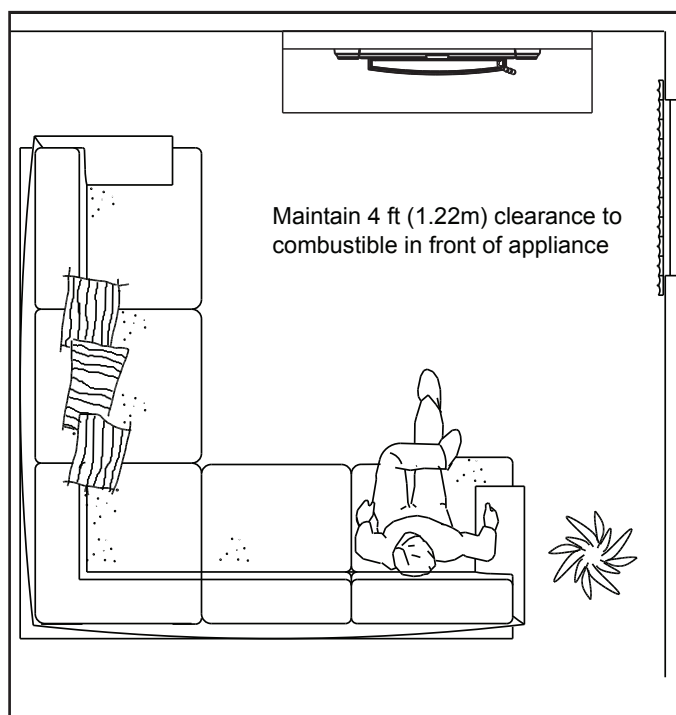

Figure 14.3
- Do NOT place combustible objects within 4 ft (1.2 m) of the front of appliance. **Figure 14.3.**